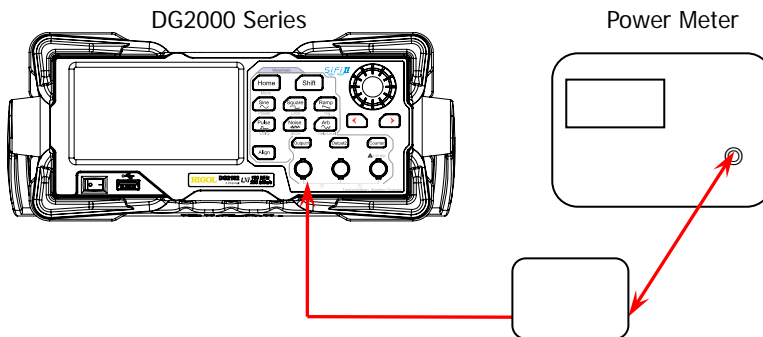

Figure 2-3 Connect DG2000 and the Power Meter
6. Disconnect DG2000 and the multimeter. Connect the power sensor and the channel output terminal (take CH1 as an example; the test method is also applicable to CH2) of DG2000 using a BNC (f)-N (m) adaptor, as shown in Figure 2-3.